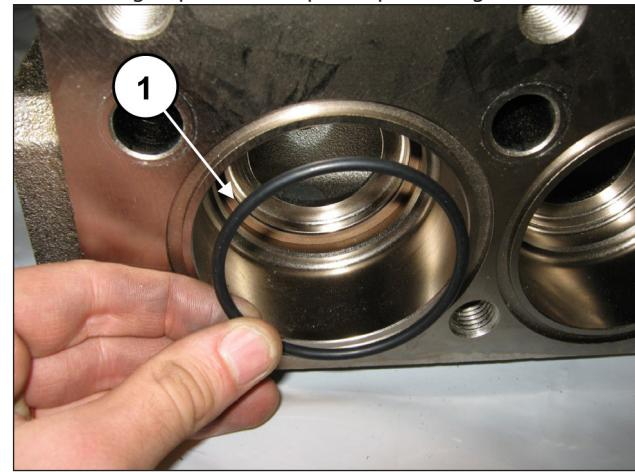

Fig. 150
Fit the O-ring, exploded view pos. 7 (pos. ①, Fig. 150).